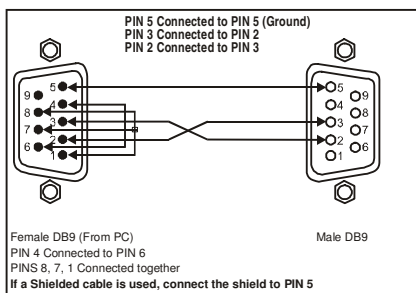

Figure 3: Connecting a PC without using a Null-modem Adapter
- Connect the RS-232 DB9 port on your PC to the RS-232 DB9 rear panel port on the Master **VS-44HDMI** unit, as *Figure 3* illustrates